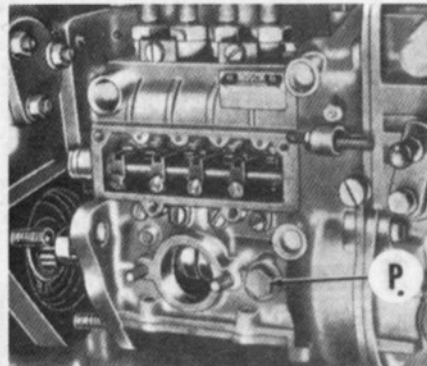

Fig. L3-12A—View of Bosch injection pump used on Models 834 and L54 showing location of drain plug (P).
holder (H). If available, attach a spill pipe to holder. Connect an external fuel supply to injection pump fuel inlet so pump is gravity fed with fuel. Turn injection pump shaft in a counter-clockwise direction, as viewed at shaft end. Then, stop shaft rotation at moment fuel stops flowing from delivery valve holder or spill pipe. Remove plug (P—Fig. L3-12A) and install a suitable screw that will bear lightly against pump shaft to prevent shaft rotation. If available, Mercedes tool number 700-589-86-73 may be used. Rotate engine crankshaft so injection timing mark (I—Fig. L3-6 or L3-7) is aligned with reference mark (M). Install injection pump on engine and tighten pump retaining nuts to 29.4 N·m. Reinstall delivery valve and spring, fuel injection lines and drain plug (P—Fig. L3-12A). If crankshaft or injection pump shaft moved slightly during installation, refer to INJECTION PUMP TIMING and recheck pump timing.